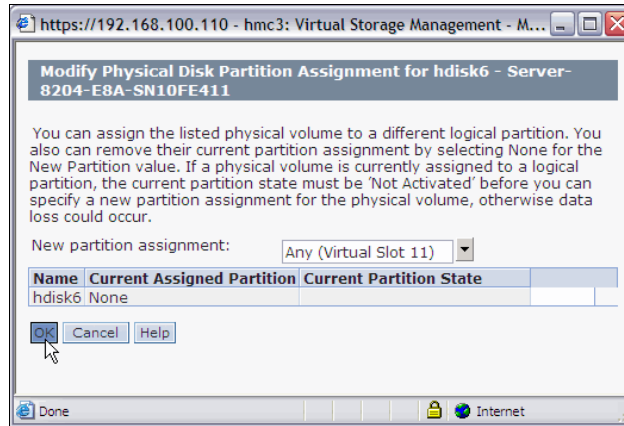

Figure 3-6 Selection of the client virtual slot
17. Select the new partition assignment and click **OK** to accept that you are assigning this volume, as shown in Figure 3-6.